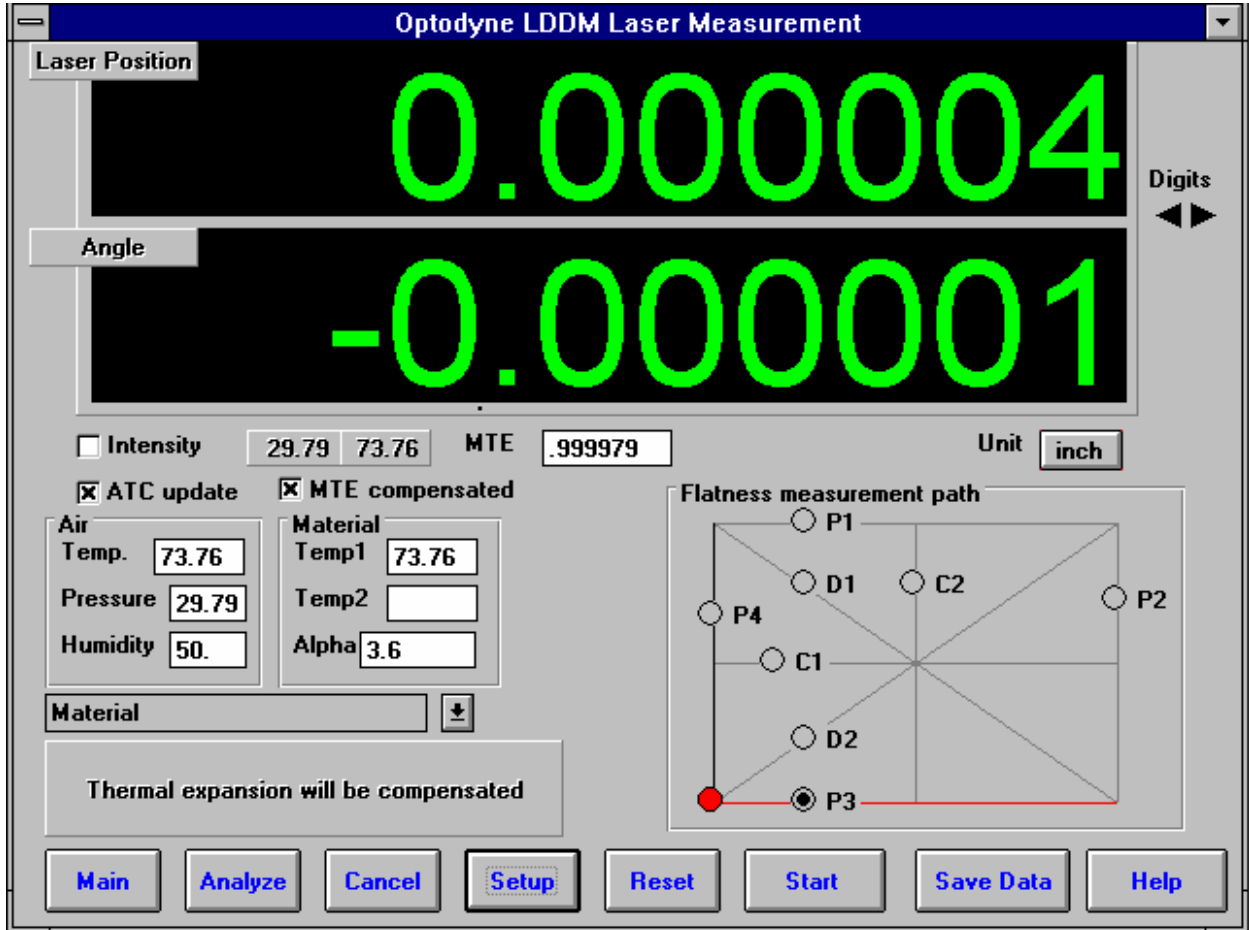

Fig. 6-1 Flatness Measurement Main Display
6.1 Flatness Measurement Main Display (Fig. 6-1)
Flatness Measurement Main Display (See Fig. 6-1)